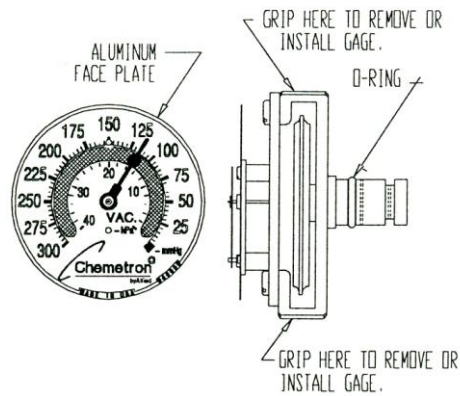
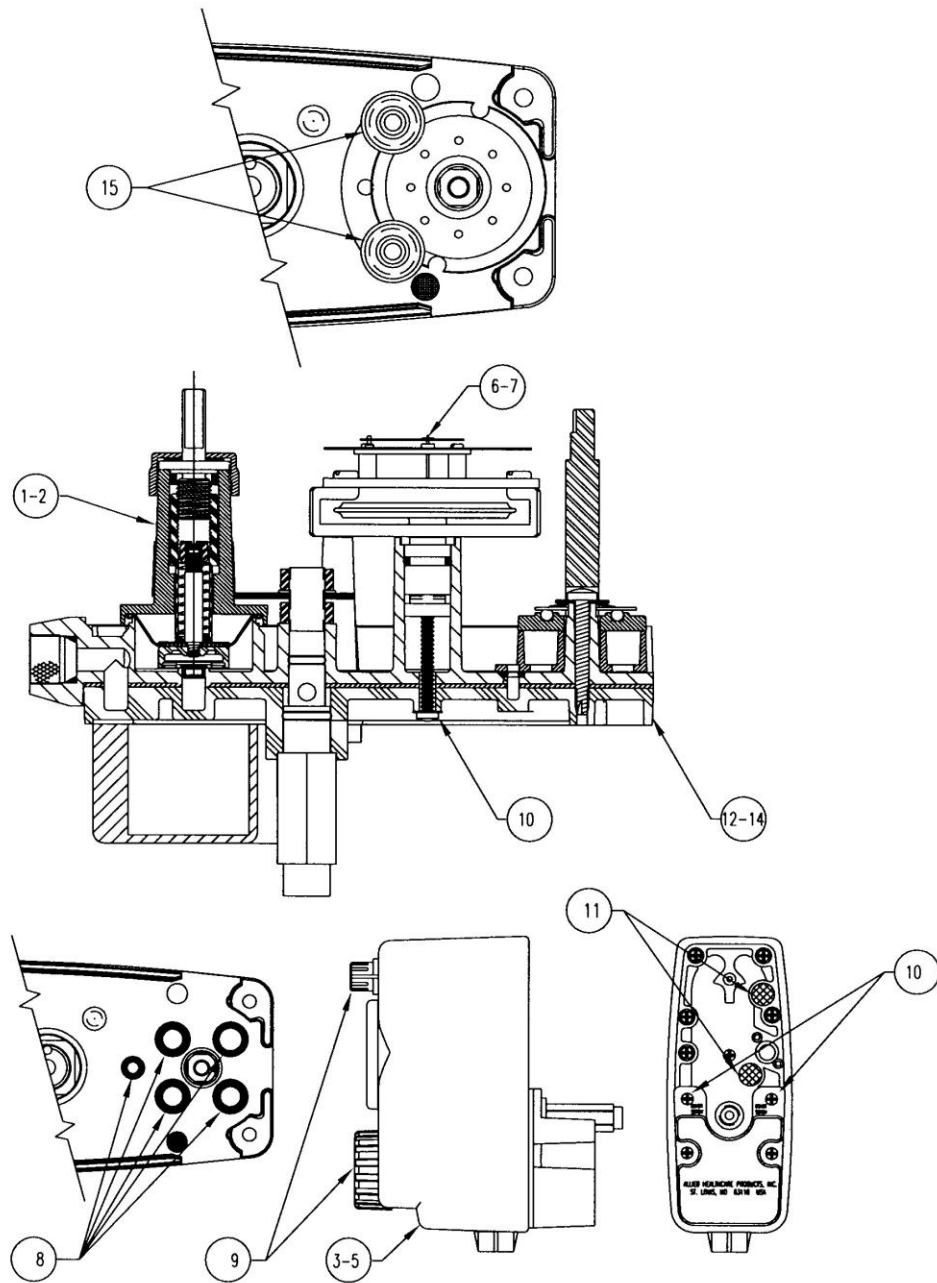

Figure 6
Figure 10
6.5.1 Check the gauge for proper function. Replace the gauge if necessary. To remove the gauge, remove the gauge screw on the back of the unit (See Figure 10). Grip the gauge by its frame and pull the gauge straight up and away from the base (See Figure 6). **Do not pull on the faceplate.** To replace the gauge, hold the gauge by its frame. Orient the gauge to read right side up when the unit is vertical. Push the gauge column into the gauge hole. Insert the gauge screw with its plastic washer in the back of the unit and tighten the screw. Reinstall the cover according to Section 6.1.
There are two small filters on the back of the unit (See Figure 10). They should be visually inspected regularly and replaced as needed.